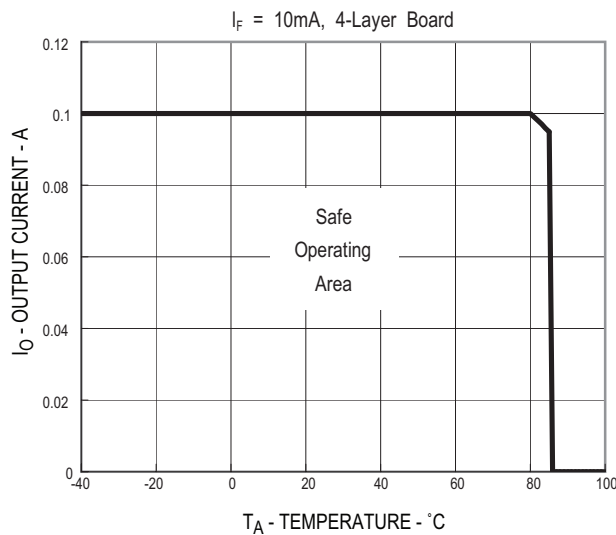

Figure 1. Maximum Output Current Rating vs Ambient Temperature (ASSR-4118-003E)
1. For derating, refer to Figure 1, 2, 3 and 4.
Figure 1, 2, 3 and 4 specify the maximum average output current allowable for a given ambient temperature. The maximum allowable output current and power dissipation are related by the expression $R_{ss} = P_o(\text{max}) / (I_o(\text{max}))^2$ from which R_{ss} can be calculated. Staying within the safe area assures that the steady state MOS-FET junction temperature remains less than 125°C .